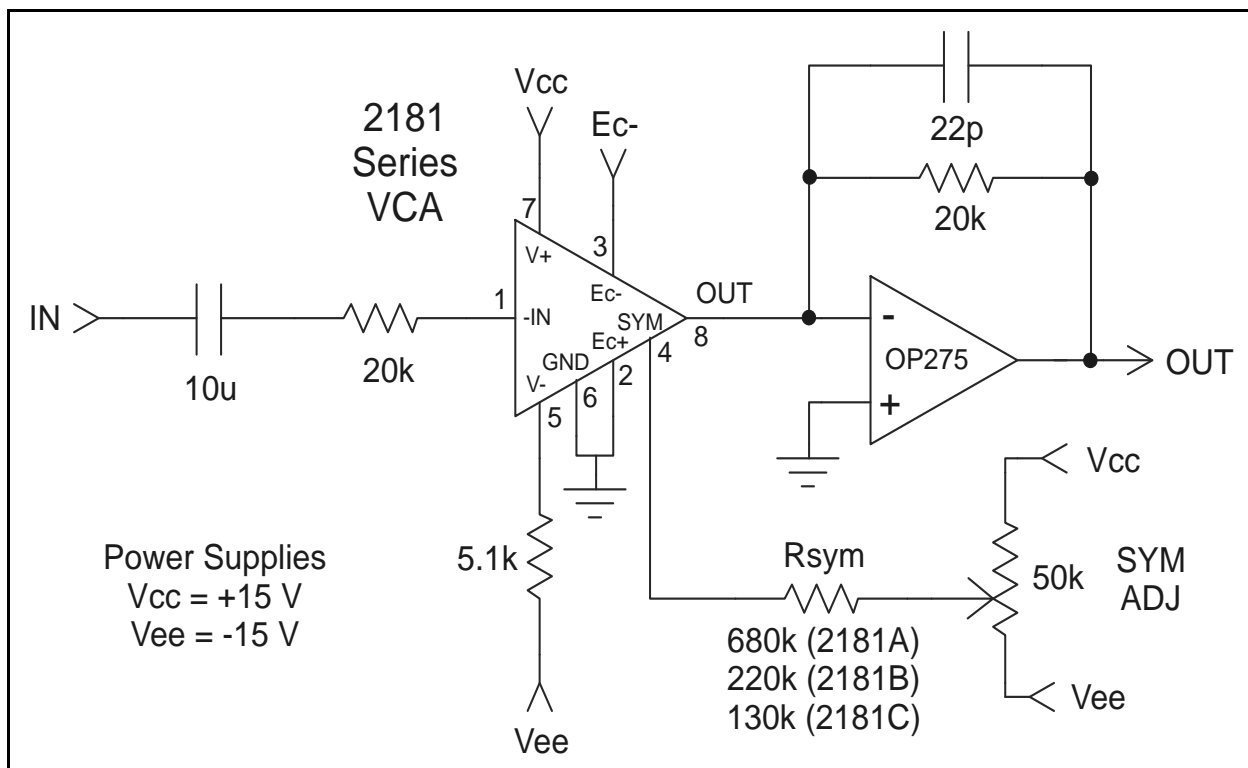
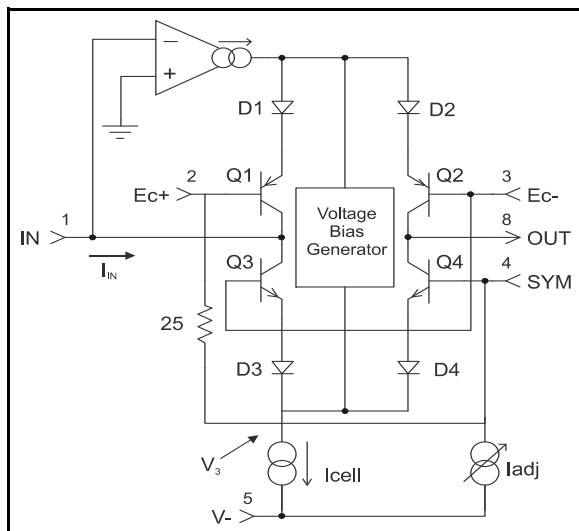
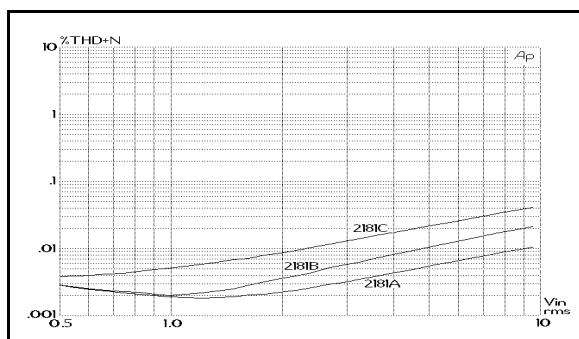
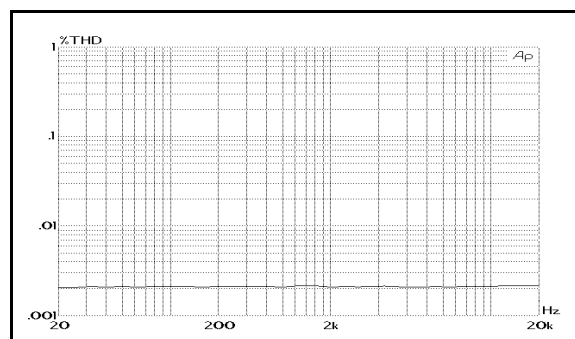

Figure 2. Typical Application Circuit
Figure 5. Simplified Internal Circuit Diagram
Figure 10. 1 kHz THD+Noise vs. Input Level, 0dB Gain
Figure 13. 2181A THD+N vs Frequency, 0dB gain 1kHz 1V
2. Unless otherwise noted, $T_A = 25^\circ\text{C}$, $V_{CC} = +15\text{V}$, $V_{EE} = -15\text{V}$. Test circuit as shown in Figure 2. SYM ADJ is adjusted for minimum THD at 1 V, 1 kHz, $E_{C-} = -E_{C+} = 0$ V.
Figure 5 presents a considerably simplified internal circuit diagram of the IC. The ac input signal current flows in pin 1, the input pin. An internal operational transconductance amplifier (OTA) works to maintain pin 1 at a virtual ground potential by driving the emitters of Q1 and (through the Voltage Bias Generator) Q3. Q3/D3 and Q1/D1 act to log the input current, producing a voltage, V3, which represents the bipolar logarithm of the input current. (The voltage at the junction of D1 and D2 is the same as V3, but shifted by four forward V_{be} drops.)
In normal operation, the output current is converted to a voltage via an opamp-based I-V converter, as shown in Figure 2, where the conversion ratio is determined by the feedback resistor connected between the output and inverting input. The signal path through the VCA and the output opamp is non-inverting.
The 2181 current consumption is determined by the resistor between pin 5 (V-) and the negative supply voltage (V_{EE}). Typically, with 15V supplies, the resistor is 5.1 kΩ, which provides approximately 2.4 mA. This current is split into two paths: 570 μA is used for biasing the IC, and the remainder becomes I_{CELL} as shown in Figure 5. I_{CELL} is further
The 2181-Series VCAs are intended to be adjusted for minimum distortion by applying a small variable offset voltage to pin 4, the SYM pin. Note that there is a 25 Ω resistor internal to the 2181 between pin 4 and pin 2. As shown in Figure 2, Page 3, the usual method of applying this offset is to use the internal 25 Ω resistor along with a larger value resistor to form a voltage divider connected to the wiper of a trim pot across the supply rails.
The 2181-Series VCA design, fabrication and testing ensure extremely good audio performance when used as recommended. The 2181 maintains low distortion over a wide range of gain, cut and signal levels. Figures 10 through 12 show typical distortion performance for representative samples of each grade of the part. At or near unity gain, the 2181 behaves much like a good opamp, with low distortion over the entire audio band. Figure 13 shows typical THD for a 2181A over frequency at 0 dB gain, with a 1 V input signal, while Figure 14 details the harmonic content of the distortion in a typical A-grade part.
The Input pin (pin 1) is a virtual ground with negative feedback provided internally (see Figure 5, Page 4). The input resistor (shown as 20 k Ω in Figure 2, Page 3) should be scaled to convert the available ac input voltage to a current within the linear range of the device. Generally, peak input currents should be kept under 1 mA for best distortion performance.
Refer to Figures 10 through 12 to see how distortion varies with signal level for the three parts in the 2181 Series for 0 dB, +15 dB and -15 dB gain. The circuit of Figure 2, Page 3 was used to generate these curves.
A designer may trade off noise for distortion by decreasing the 20 k Ω current-to-voltage converting resistors used at the input and output in Figure 2, Page 3. For every dB these resistor values are decreased, the voltage noise at the output of the OP275 is reduced by one dB. For example, with 10 k Ω resistors, the output noise floor drops to -104 dBV (typical) at 0 dB gain — a 6 dB reduction in noise because 10 k Ω is 1/2 of (6 dB lower than) 20 k Ω .
The Output pin (pin 8) is intended to be connected to a virtual ground node, so that current flowing in it may be converted to a voltage (see Figures 2 & 15). Choose the external opamp for good audio performance. The feedback resistor should be chosen based on the desired current-to-voltage conversion constant. Since the input resistor determines the voltage-to-current conversion at the input,
The SYM pin (pin 4) is actually a sort of additional positive-sense control port. It is provided to allow V_{be} mismatches in the core transistors to be adjusted after packaging and installation in the circuit board. It should only be used for this purpose. Connect pin 4 only to a high-impedance source as shown in Figures 2 and 15.